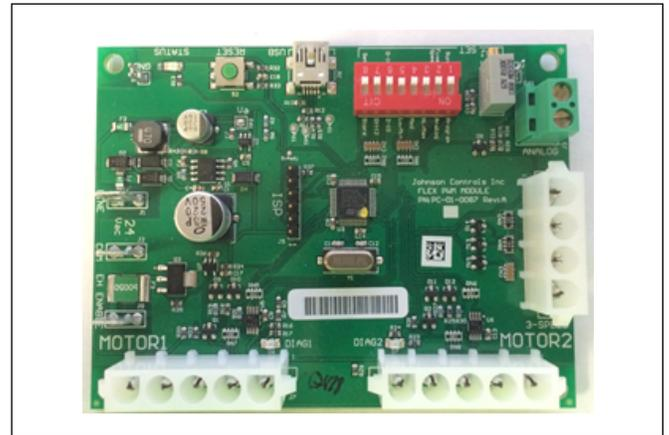

Figure 41 – G3 PWM Board
- a. Locate the G3 PWM board within the control enclosure (See Figure 41).